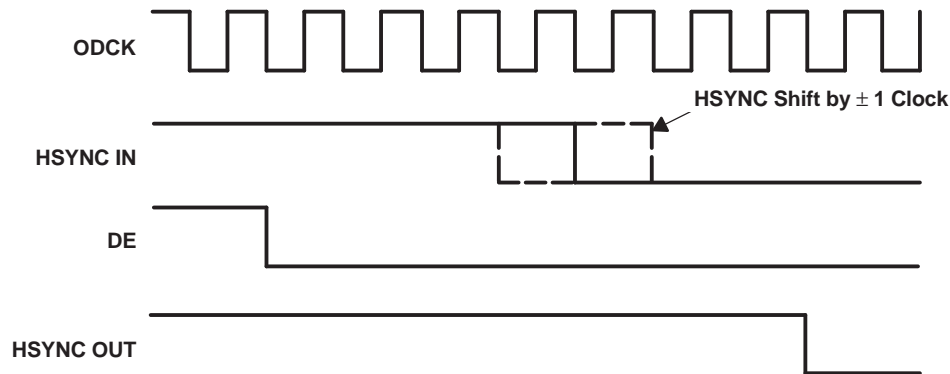

Figure 17. HSYNC Regeneration Timing Diagram
The TFP401A integrates HSYNC regeneration circuitry that provides a seamless interface to these noncompliant transmitters. The position of the data enable (DE) signal is always fixed in relation to data, irrespective of the location of HSYNC. The TFP401A receiver uses the DE and clock signals to recreate stable vertical and horizontal sync signals. The circuit filters the HSYNC output of the receiver, and HSYNC is shifted to the nearest eighth bit boundary, producing a stable output with respect to data, as shown in Figure 17. This ensures accurate data synchronization at the input of the display timing controller.